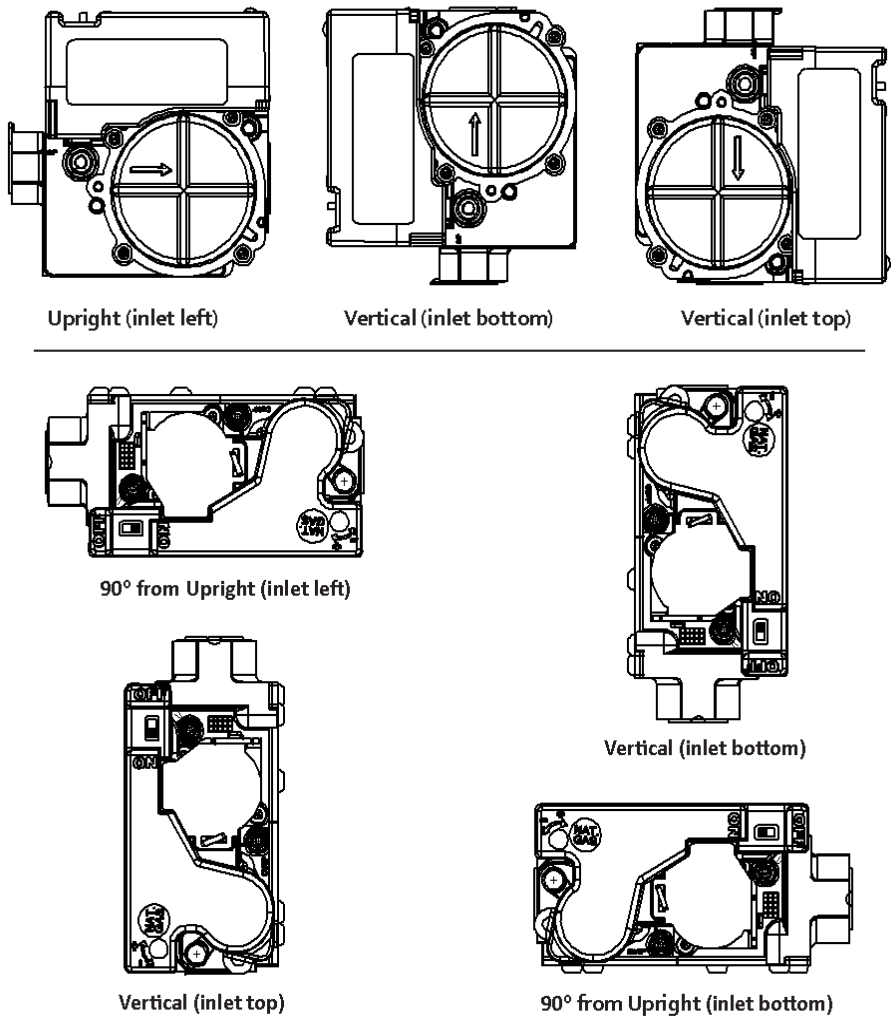

Fig. 2 – Valve Mounting
3. The control may be installed upright, + or - 90° from upright, or vertical (refer to fig. 2). The arrow on the valve indicates the direction of inlet gas flow.